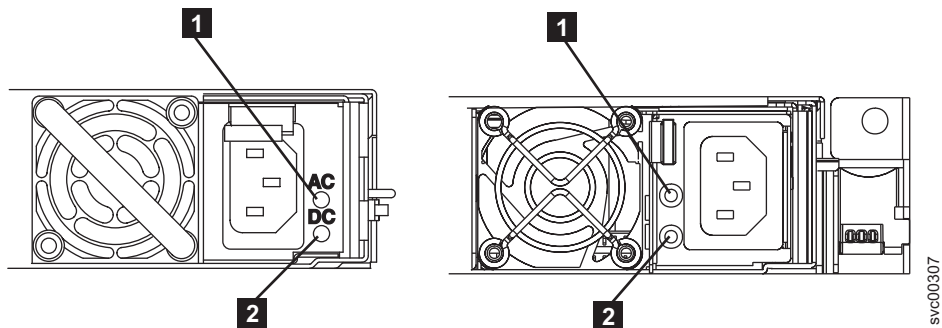

Figure 79. SAN Volume Controller models 2145-8G4 and 2145-8F4 or 2145-8F2 ac and dc LED indicators on the rear panel
**Is the ac LED indicator on the rear of the power supply assembly illuminated?** Figure 79 shows the location of the ac LED **1** and the dc LED **2** on the rear of the power supply assembly that is on the rear panel.